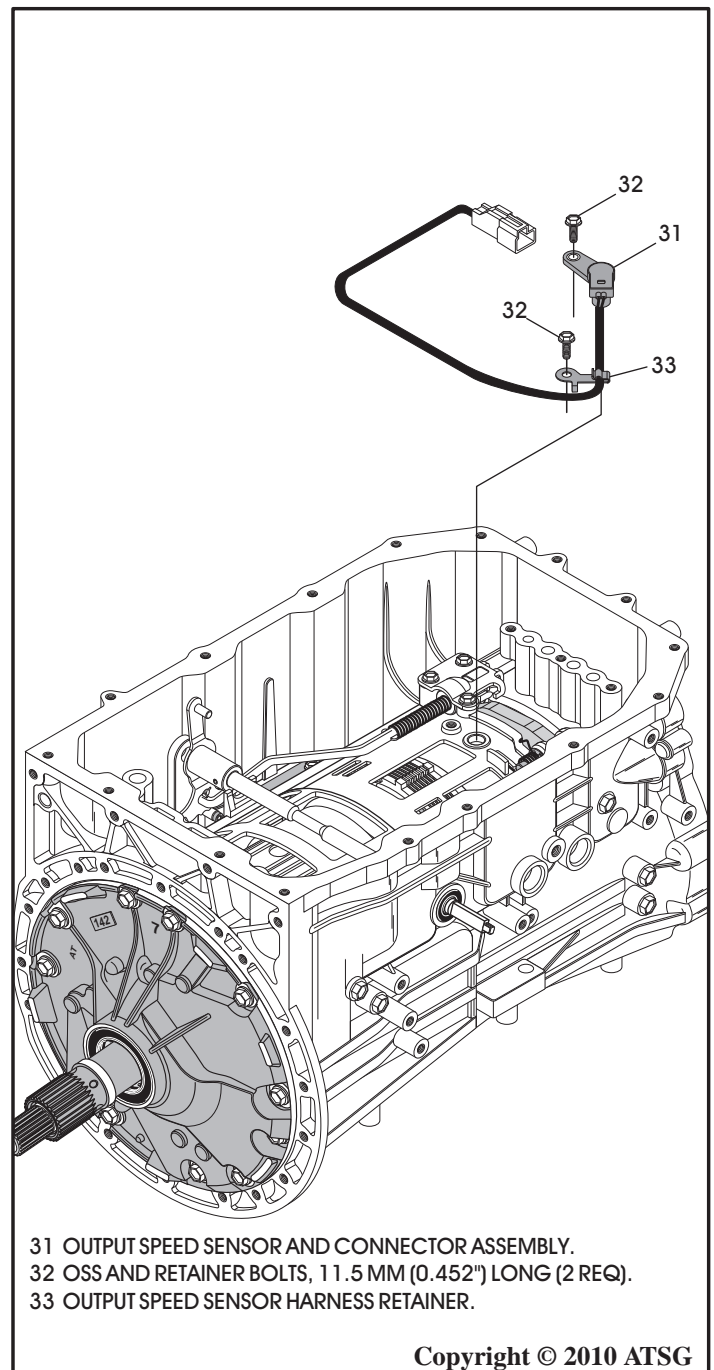

Figure 52
27. Remove the bolts from the output speed sensor and output speed sensor wire harness retainer, as shown in Figure 52.
28. Remove output speed sensor and wire harness assembly from case, as shown in Figure 52.